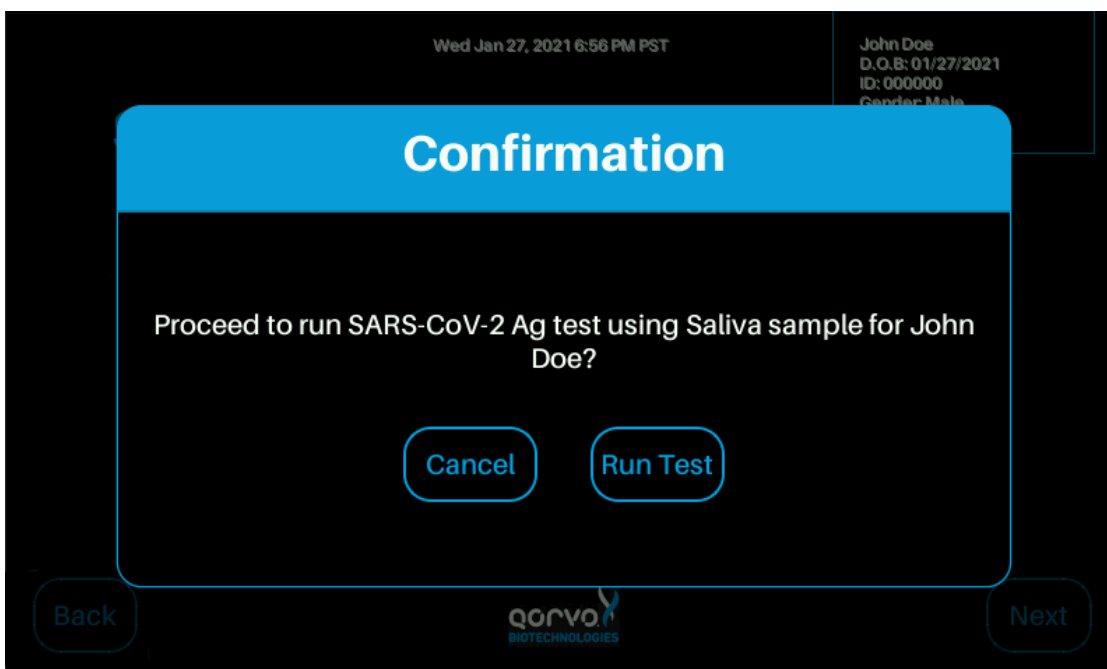

Figure 29
12. The user is then required to confirm and run the test (Figure 29).